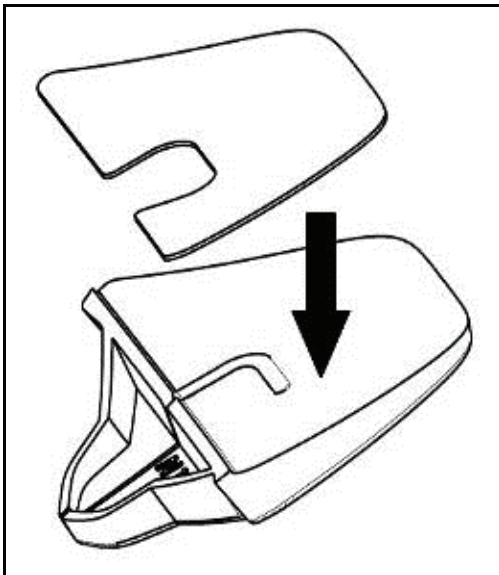

Fig. 3
- Apply the double-sided adhesive tape supplied as standard equipment to the selected plastic adaptor (Fig. 3).